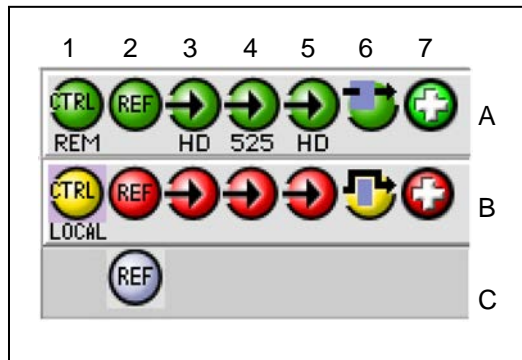

Figure 3.3 Status Icons
1. The Status Icon area shows a series of seven icons that report the status of some card parameters. Figure 3.3 shows the various forms that may appear; their meaning is described below.